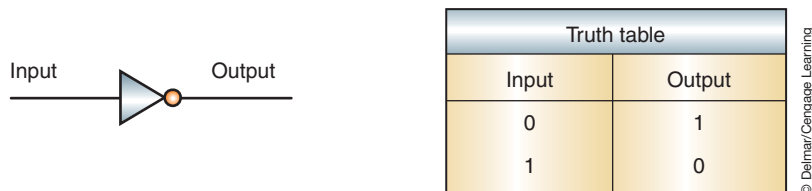

FIGURE 9-11 The NOT gate symbol and truth table. The NOT gate inverts the input signal.
1. **NOT gate:** A NOT gate simply reverses binary 1's to 0's and vice versa (Figure 9-11). A high input results in a low output and a low input results in a high output.